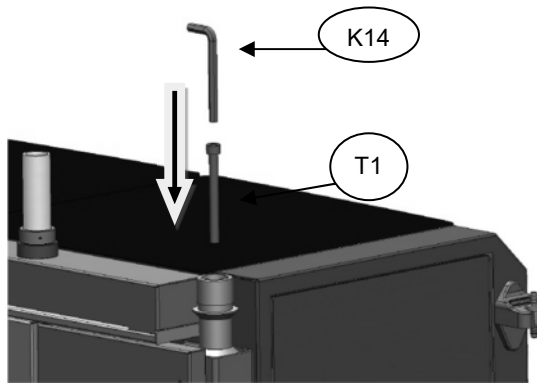

Fig. 2
4. Introduce in the cone the M16 screw **T1** and with the key **K14**, adjust it until the cone is loose in its housing and remove it with your hand, so it is ready to remove the support or change it to the other side. (Figs.2 and 3)